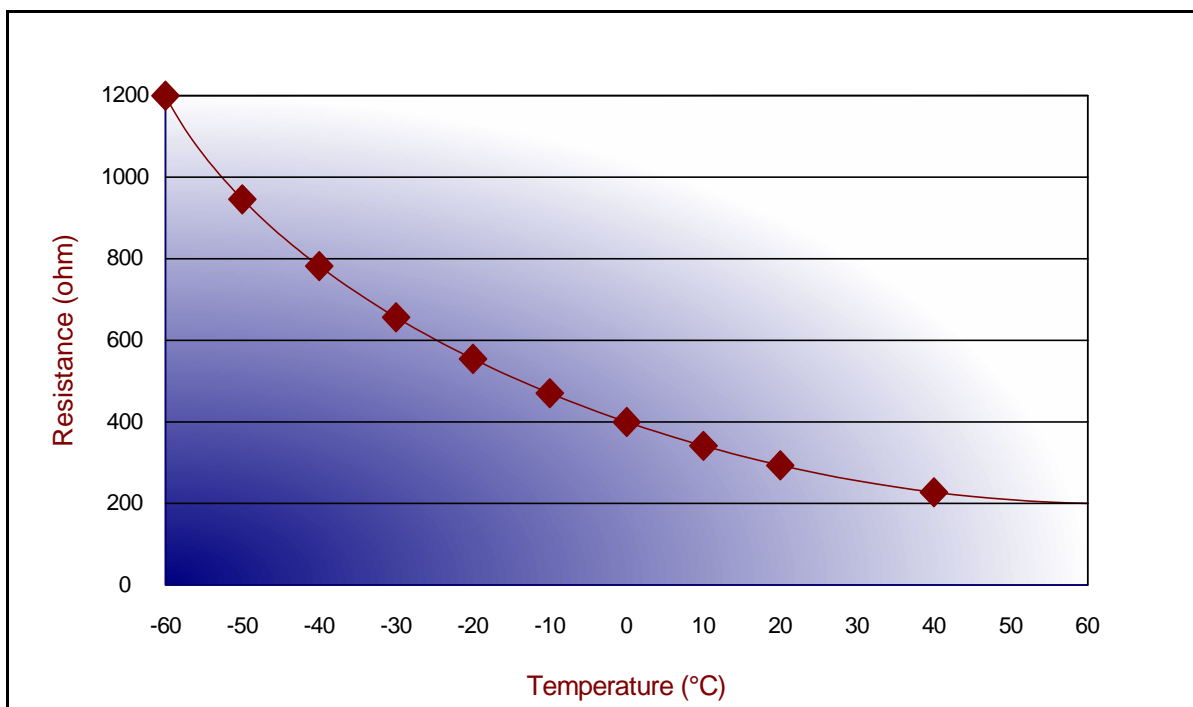

Figure 17.5.3.3-1 Heater Resistance vs. Temperature.
- b. Separately measure the resistance of both heaters. The heater is a power resistor, whose resistance value depends strongly on the resistor temperature as illustrated in Figure 17.5.3.3-1 Heater Resistance vs. Temperature.